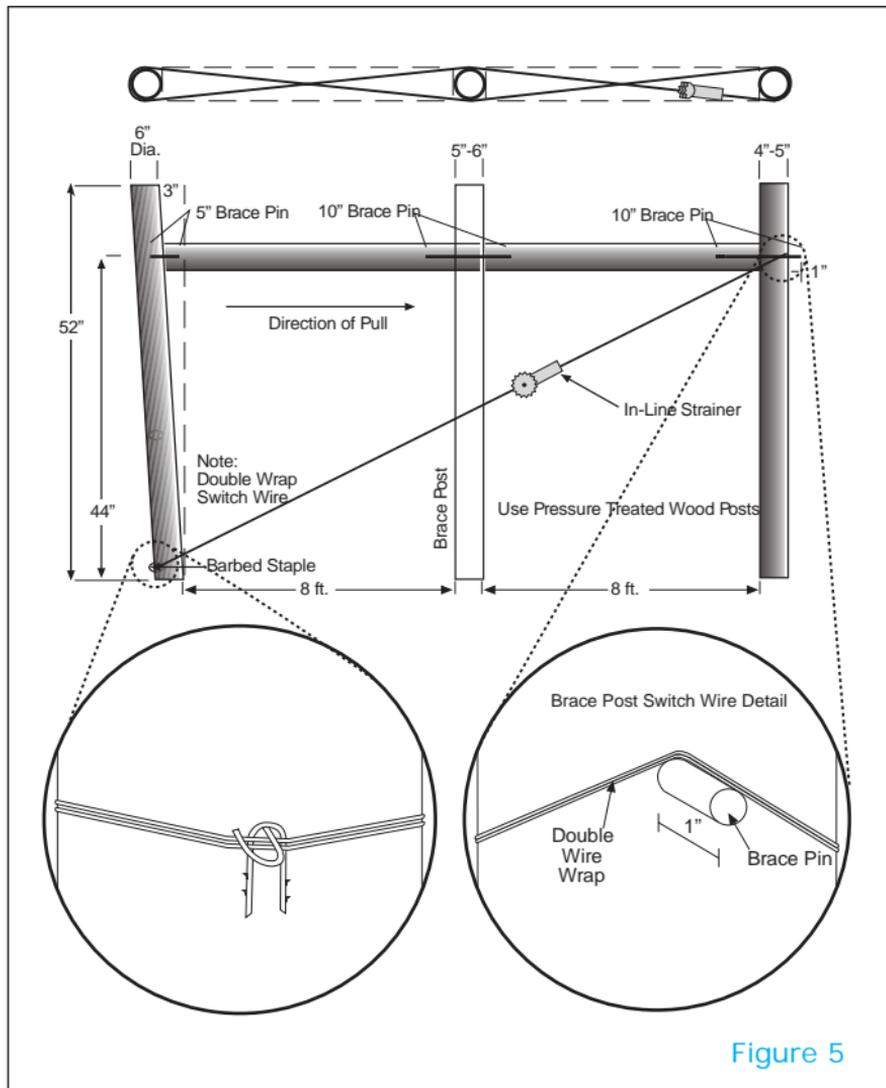
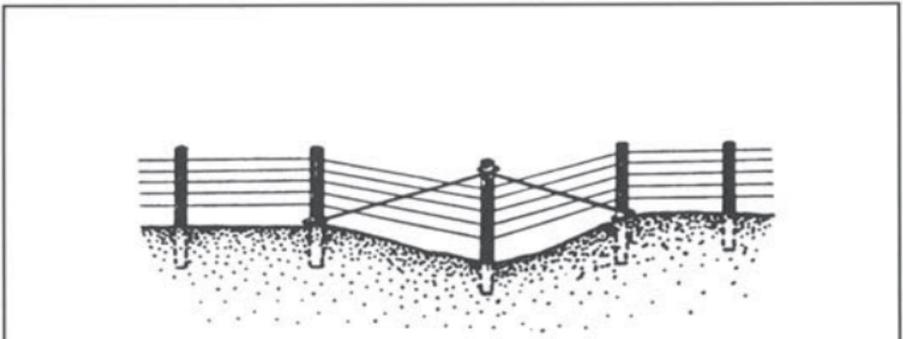
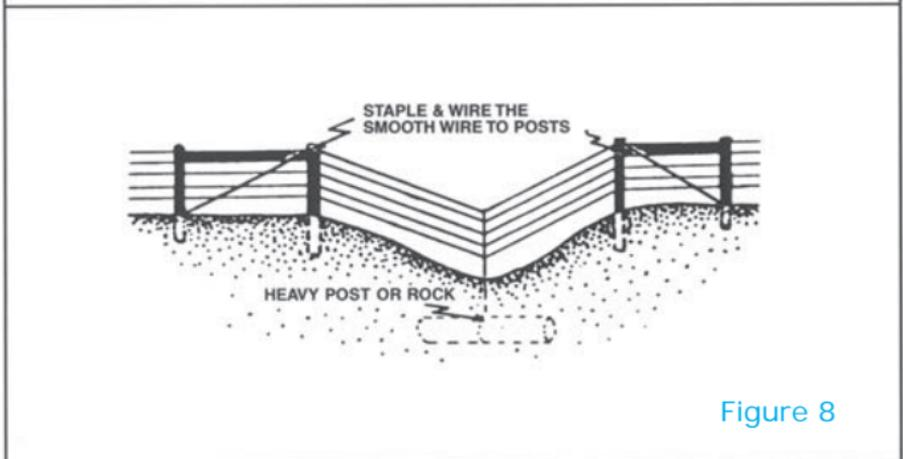

Figure 5
Figure 7
Figure 8
6. Wrap the brace wire two times in a figure 8 pattern around the posts making sure to go over the top of the protruding brace pin, and below the staple at the bottom of the corner/end post. (Figure 4)
How to Build a Double “H Brace (Figure 5)
4. Insert a five inch brace pin into the hole that was previously drilled into the corner/end post. You should have 2 to 3 inches of the pin left sticking out of the post. Install one side of the first cross member by sliding the hole in the end over the pin that was left protruding from the corner/end post. Next, slide the first cross member into place. Use a hammer to drive a 10 inch brace pin through the hole in the middle brace post, and into the hole in the cross member. Make sure to leave at least three inches of the brace pin sticking out of the middle brace post. Use this protruding brace pin to install the second cross member. Hammer the second 10 inch brace pin through the inner brace post, and into the second cross member. Remember to leave one inch of the brace pin protruding from the inner brace post. (Figure 5)
5. Drive a barbed staple at a downward angle approximately four inches from the ground in the corner/end post. Hang another staple on one leg of this staple to prevent the wire from digging into the post. (Figure 5)
6. Wrap the brace wire two times in a double figure 8 pattern around all three posts. (Figure 5)
If you must cross a depressed area, set a taller post at the bottom of the depression and brace it down as shown. (Figure 7) If water often runs through the depression, make the fence conform to the land with a buried dead weight. (Figure 8)